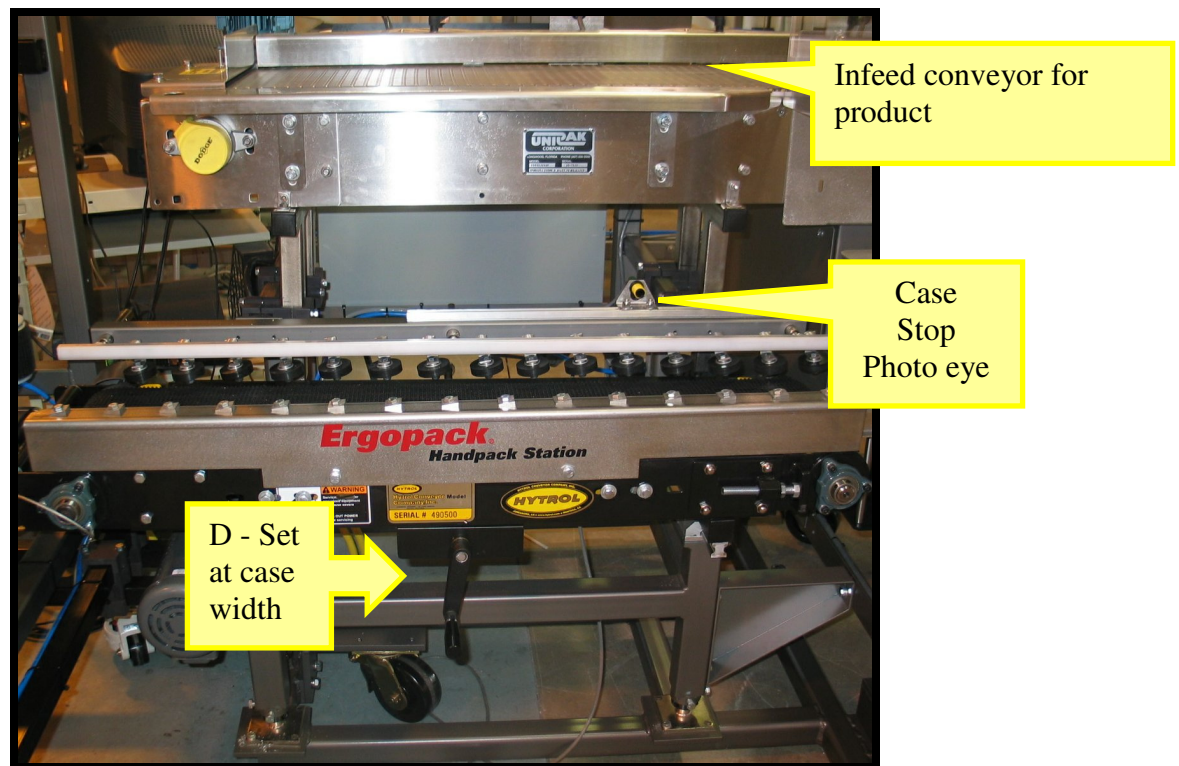

Figure 8 - Hand pack Stations can be for 1-3 operators depending on options purchased.
6. The ergo is also set at the case width of the case (see figure 8) by using the crank handle until the indicator shows the appropriate measurement.
7 Measure the length of the case to be erected (See figure 8)